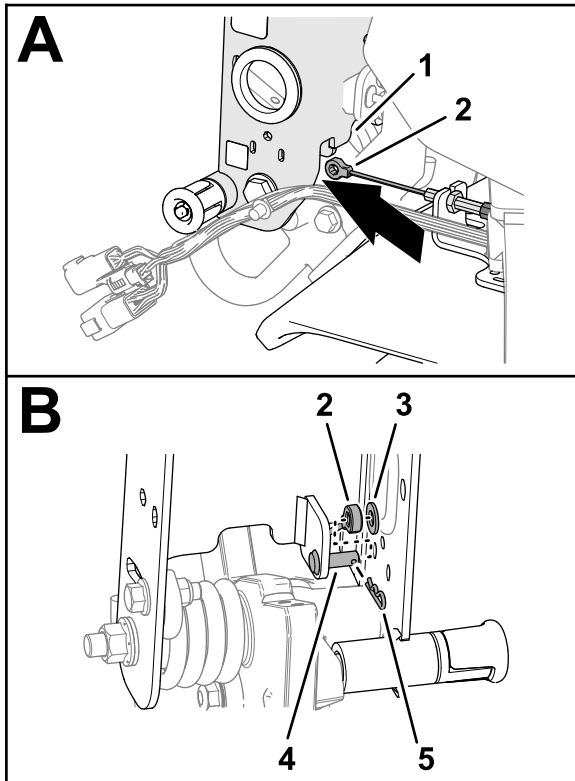

**Figure 7**
1. Route the fitting of the brake cable under the bottom of the handle-bar channel (Figure 7).